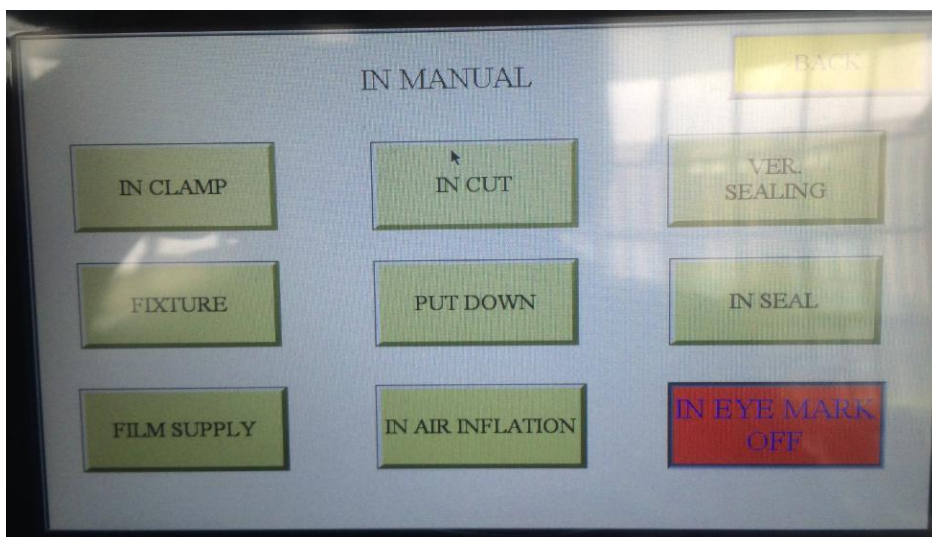

Fig. 4-6
**Inner Manual:** displays the inner film sealing by manual. click this button to go into the interface 4-6. (see Fig. 4-6)